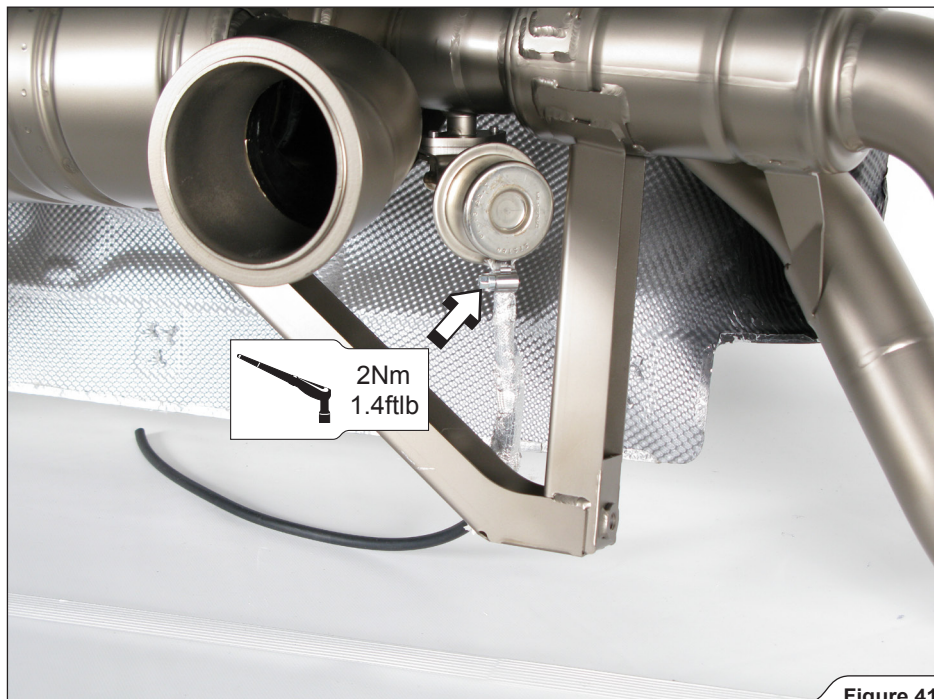

Figure 41
3. Attach the rubber vacuum tubes from Akrapovič installation kit onto the both exhaust valve actuators and tighten the clamps (**Figure 41**).